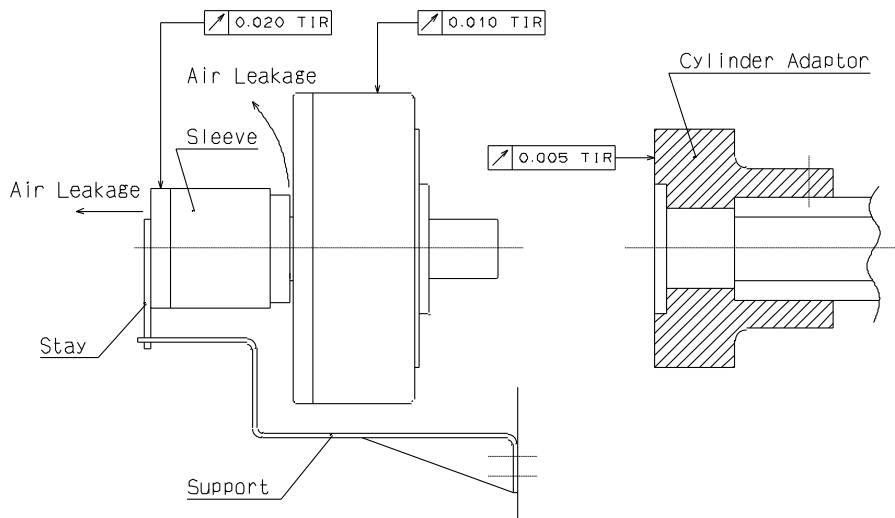

Fig. 1 Run-out of cylinder after mounting
- When mounting the cylinder ,rotate the spindle in order to check run-out on the cylinder periphery and upper or lower side of sleeve (See Fig.1).
- First, set the pneumatic pressure to low pressure (0.05~0.1MPa) for checking that the chuck is adequately operated. After that, increase the pressure to allowable pressure slowly to check fault on each part. However, the air leakage from between Sleeve and Rotary valve is not failure. (See Fig.1)